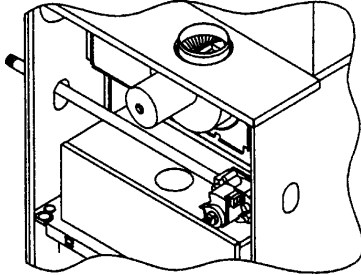

Figure 14
- Straight pipe to reach the exterior of the furnace (Figures 14 & 15).